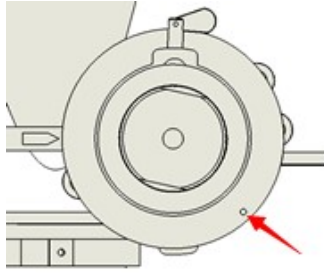

Figure 20
Step 3. Loosen the dial screw and pull out the $\phi 3$ pin under the dial , so that the dial can be freely rotated around the axis (Figure 20).